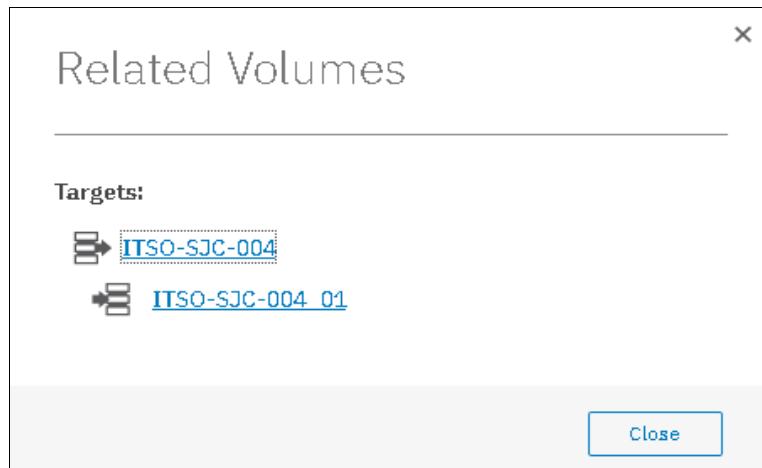

Figure 10-43 Show Related Volumes
2. Select the volume or the FlashCopy mapping to show the related volumes, as shown in Figure 10-43.